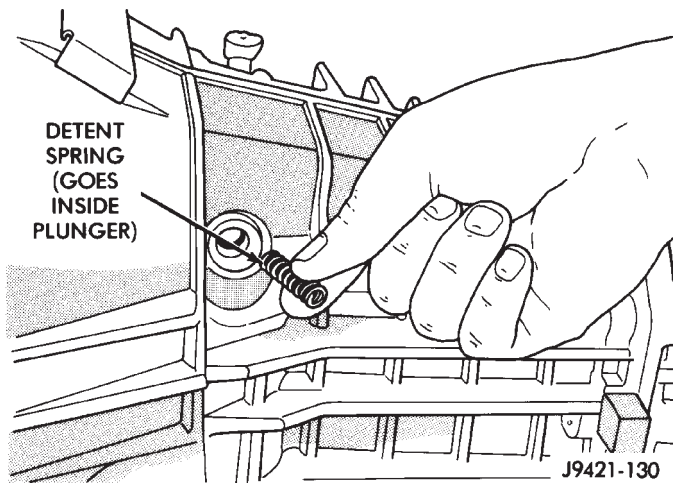

Fig. 127 Installing Detent Plunger Spring
(14) Install detent spring inside plunger (Fig. 127).